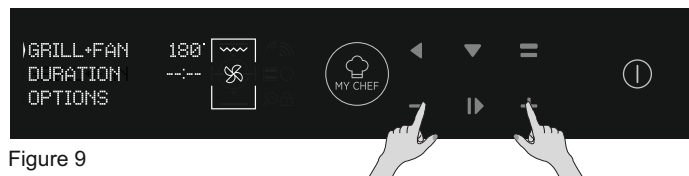

Figure 9
- Press PLUS or MINUS to select the desired temperature in selected function. Press OK to go ahead or BACK to return to the cooking functions selection. (Figure 9)